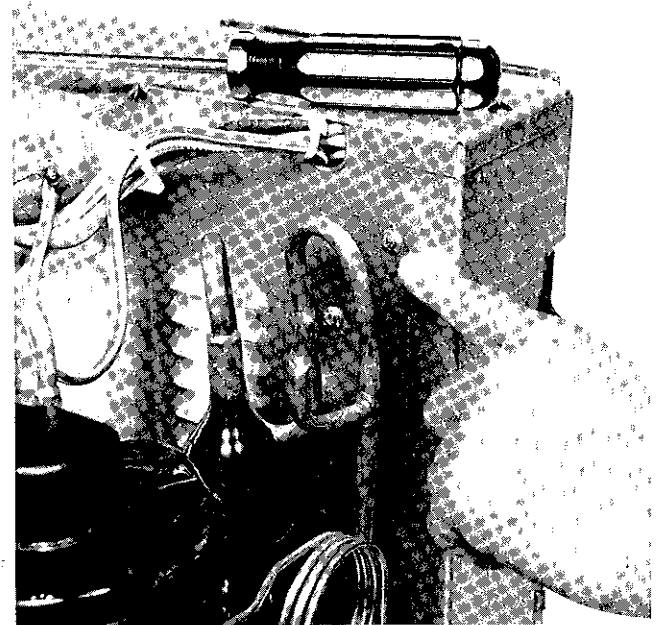

Fig 8 — Control Box Screws
- 7 **Control Box** — Control Box is secured with 2 screws See Fig 8
- j Remove control box See Fig 8 Refer to Control Box removal directions